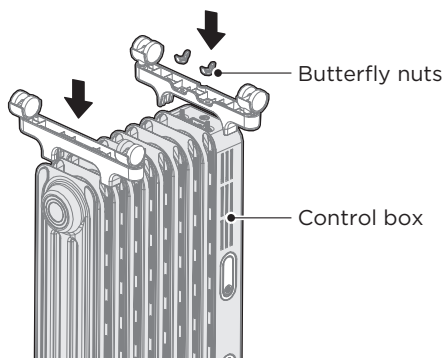
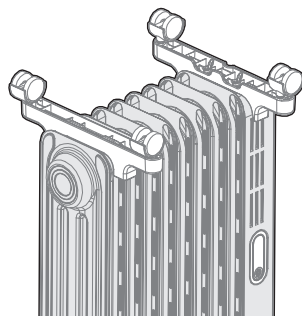

Figure 2
Figure 3
- 2 As shown in Figure 2 and Figure 3, first turn the heater body upside down with the bottom facing up, align the support assembly with two circular through holes with the two screws at the bottom of the control box and put it down freely, tear off the blue tape on the support foot and take out the butterfly nuts, and finally lock it with the butterfly nuts; In addition, the mounting groove of feet assembly with clamping groove is aligned and clamped on the first heat sink.